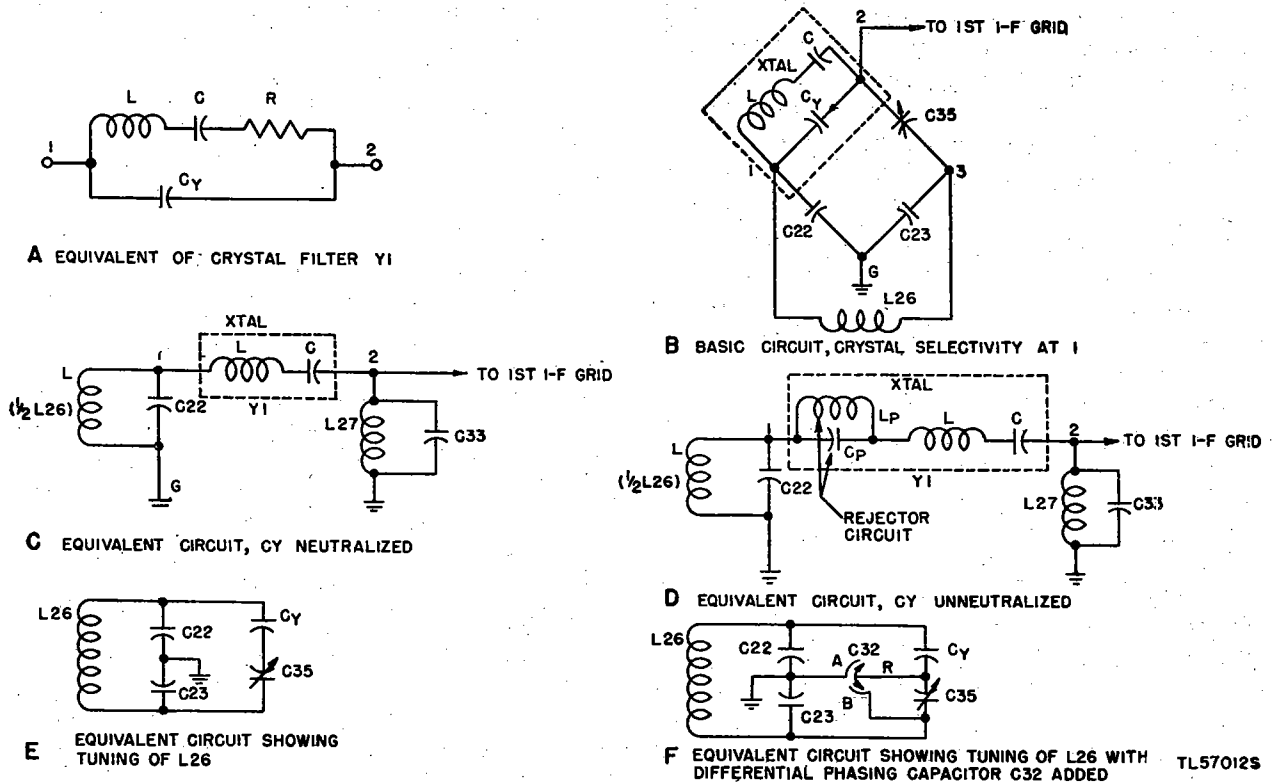

Figure 28. Radio Receiver BC-779-B, functional and equivalent diagrams of crystal filter circuit.
## 61. Crystal Filter (fig. 28)
a. EQUIVALENT CRYSTAL CIRCUIT. The equivalent electrical circuit of a crystal is shown in "A," figure 28. The circuit, and hence the crystal, are resonant at two frequencies: The frequency at which the reactance of L is equal to the reactance of C (series resonance), and the frequency at which the effective reactance of L-C (in series) is *inductive* and *equal* to the capacitive reactance of  $C_Y$  (parallel resonance). At the series-resonant frequency the crystal acts as a low-impedance connection between 1 and 2. At the parallel-resonant frequency the crystal acts as a high impedance between 1 and 2.
b. BASIC FILTER CIRCUIT ("B," fig. 28). Capacitors C22 and C23 (100 mmF each) are connected in series across the secondary of i-f input transformer L26, and their junction is grounded to provide a midpoint connection in the resonant circuit L26-C22-C23. Consequently, the capacitor voltages are always of equal amplitude but 180° out of phase. Phasing capacitor C35 (1.5 to 5 mmF) is connected between 3 and 2, and the crystal is connected between 1 and 2.
c. NEUTRALIZATION OF  $C_Y$ . Capacitors C22, C23, C35, and  $C_Y$  (the capacity between the crystal holder plates) form a capacity bridge; the input is applied to 1 and 3, the output is taken from 2 and G. When capacitor C35 is adjusted so that its capacitance is equal to that of  $C_Y$ , the voltage coupled from 3 through C35 to 2 is equal and opposite to the voltage coupled from 1 through  $C_Y$  to 2. Under this condition  $C_Y$  is neutralized and the crystal acts as a series-resonant circuit only ("C," fig. 28). Since the crystal is resonant at the intermediate frequency, there is (in effect) a direct connection between 1 and 2. As indicated in "C," figure 28, only the voltage across C22 (one-half the secondary voltage) is applied through the crystal to the grid circuit of the first i-f stage.
tance of L-C and the capacitive reactance of  $C_Y$ . For simplicity the parallel-resonant circuit is denoted as rejector circuit  $L_P C_P$  in "D," figure 28.  $L_P$  and  $C_P$  denote the effective inductance and capacitance at the parallel-resonant frequency. L and C indicate the effective inductance and capacitance of the crystal at the series-resonant frequency, in this case the 465-kc i.f. In other words, unless  $C_Y$  is neutralized, the crystal acts simultaneously as a parallel- and series-resonant circuit. The parallel-resonant circuit  $L_P C_P$  has no effect on the 465-kc i.f. but presents a high impedance to, and therefore rejects, the frequency to which  $L_P C_P$  is resonant. L and C present extremely low impedance to the 465-kc i-f signal voltage and high impedance to voltages at different frequencies. *With underneutralization the resonant frequency of  $L_P C_P$  is higher than 465 kc.*
f. CAPACITOR C32. Capacitor C35, in series with capacitance  $C_Y$ , is across L26 and affects its tuning ("E," fig. 28). To avoid the detuning effect and to enable shifting the rejection frequency to either side of the i.f., differential PHASING capacitor C32 ("F," fig. 28) is used in the radio receiver. Stator sections A and B are so arranged that, as rotor R is turned out of one stator into the other, the capacitance of the first *decreases* by the same amount that the capacitance of the second *increases*. Thus, whether the rotor is entirely engaged in stator A, is at a midpoint, or is entirely in stator B, the effective capacitance across A-B, and therefore across L26, remains constant. Assume that C32, the PHASING capacitor, is set at the arrow position of the PHASING control on the front panel and
(2) *CRYSTAL SELECTIVITY switch at 1.* When CRYSTAL SELECTIVITY switch SW7 is placed at 1, the short is removed from the crystal. If the secondary of L26 and the parallel-resonant grid circuit, L27-C33, are tuned to 465 kc, each is the equivalent of a high resistance in series with the equivalent series-resonant circuit of the crystal ("C," fig. 28). Consequently, the Q and therefore the selectivity of the series-resonant (crystal) filter circuit is reduced, and the bandwidth is several kilocycles wider than that of the crystal alone.